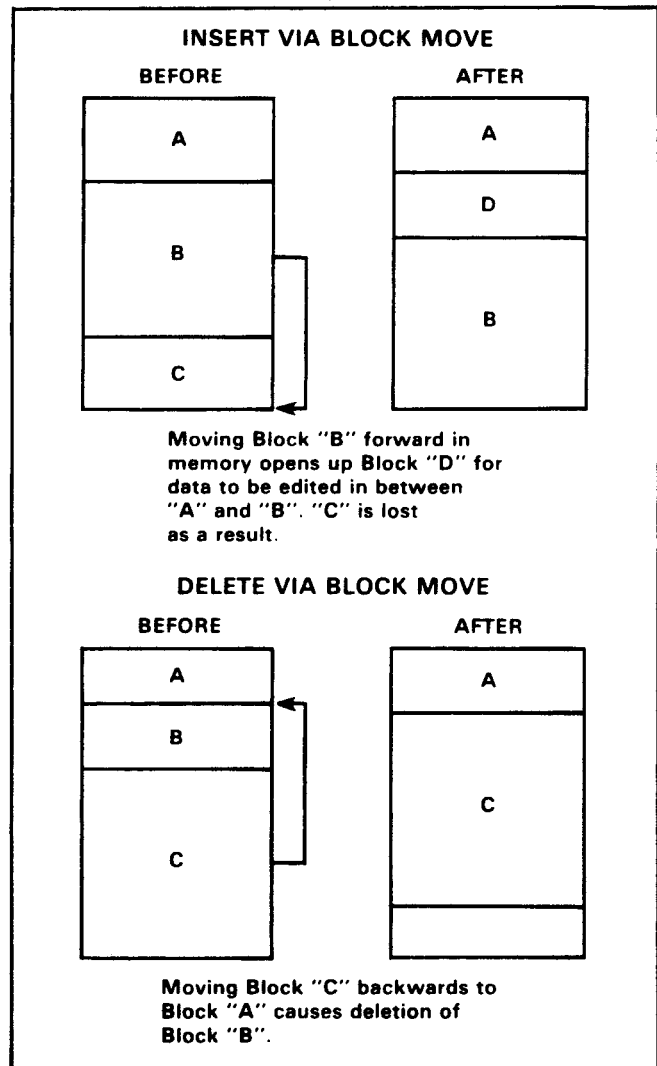

Figure 3-2. Block Move Capabilities
**BLOCK MOVE.** A Block Move is accomplished with the COPY key. In a Block Move, the blocks of data within RAM can be rearranged. Figure 3-2 illustrates what can be accomplished with a Block Move.